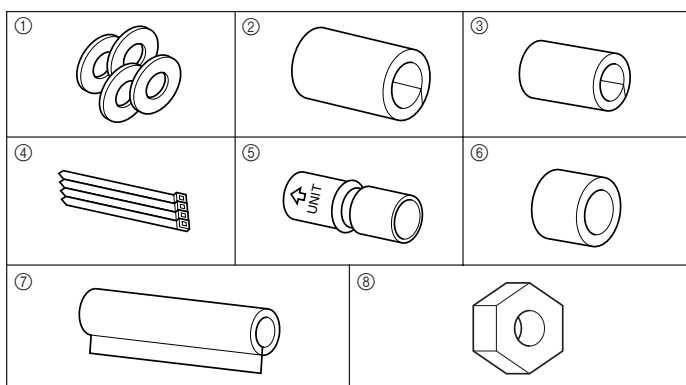

Fig. 3-1
3.1. Check the indoor unit accessories (Fig. 3-1)